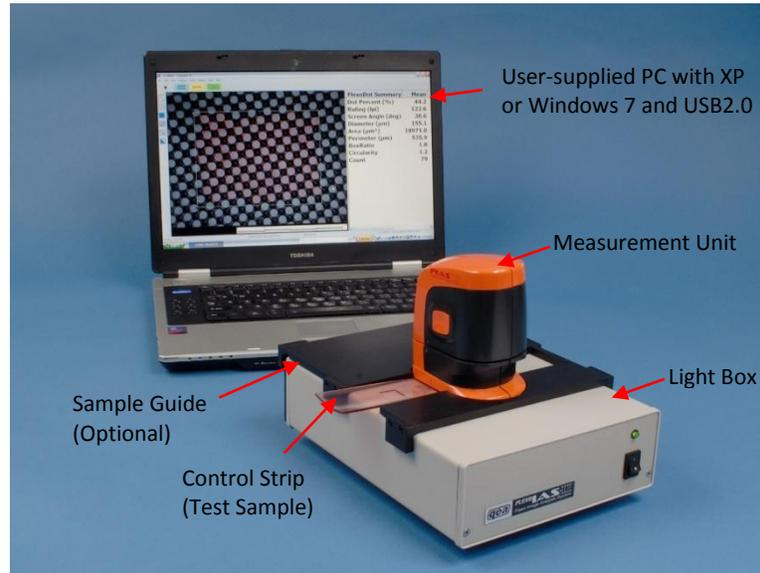

Fig. 1 FlexoIAS-II Flexographic Plate Measurement System
- a. Measurement unit and special transmission light box (Figs. 1 above and 2b below)